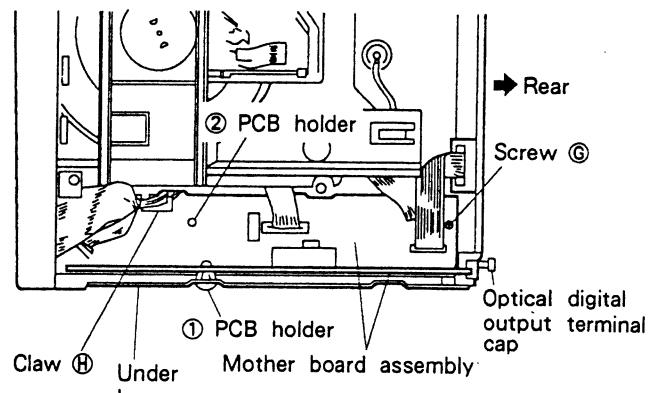

Fig. 2 – 3.
- ① Remove the float base. (See 2.3.)
- ② Remove the gear pulley and driving gear.
- ③ After rotating the clamp cam fully in the counter clockwise direction, pull it up.
- ① Remove the tray. (See 2.1.)
- ② Remove the operation panel and rear base.
- ③ Remove screw ④ holding the mother board assembly.
- ④ Remove the bundle of wires of the mother board assembly from claw ⑤ of the loading base.
- ⑤ After removing the board from the PCB holder in the order of ① and ② shown in Fig. 2 – 3, pull it out.